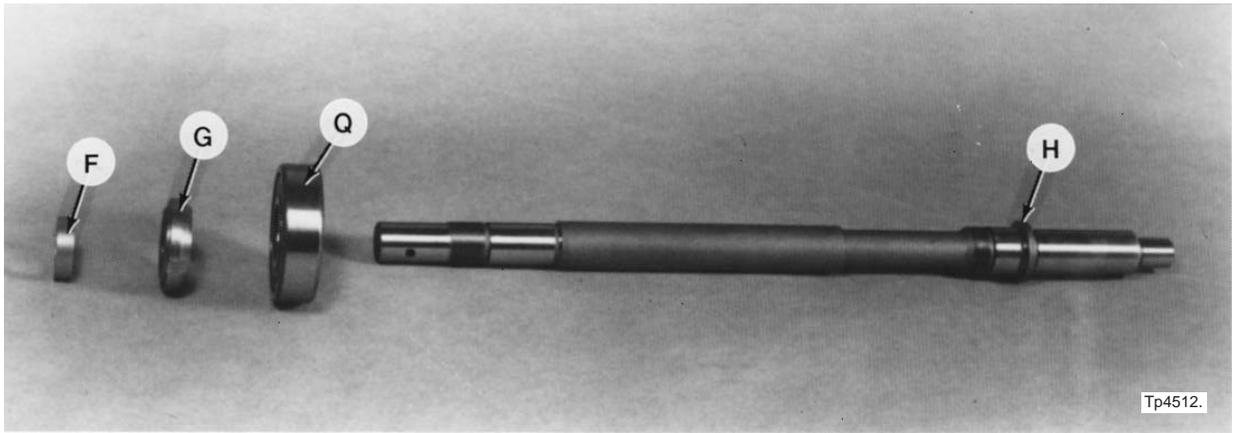

Figure 4.56 - Cluster Shaft Extension
Note the orientation of nut “G”, Figure 4.56, before removing it.
- a) Remove spacer “F”, Figure 4.56 .
- b) Remove nut “G”, Figure 4.56, and press bearing “Q”, Figures 4.41 and 4.56, from the shaft.
Bearing "Q", Figure 4.56, locates against shoulder "H".
- a) Press bearing "Q", Figure 4.56, onto the shaft.